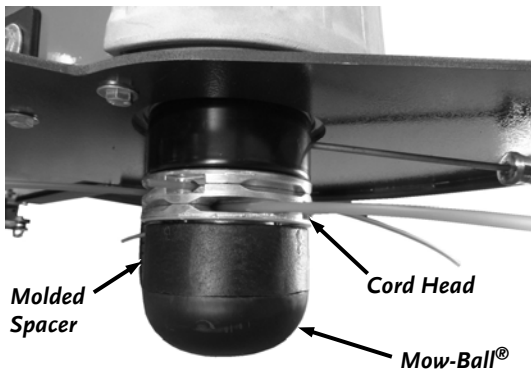

Figure 13
11. Tighten the assembly securely by turning the Mow-Ball® counterclockwise when looking down on the top of the Frame (**Figure 13**).